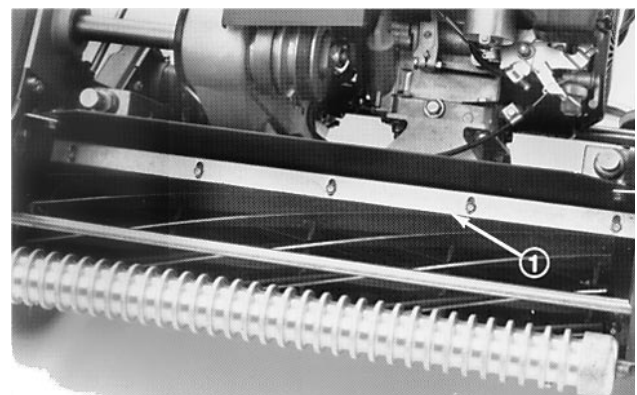

Fig. 10
1. Loosen the screws securing the top bar (Fig. 10) to the cutting unit. Insert a .060 inch feeler gauge between the top of the reel and the bar and tighten the screws. Assure the bar and the reel are equal distance apart across the entire reel.